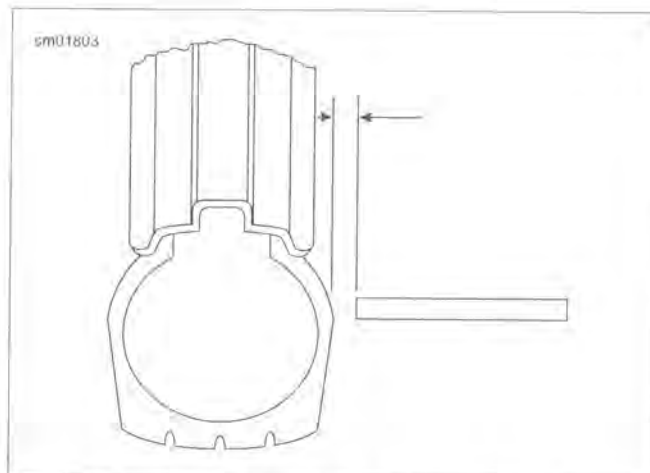

Figure 2-84. Checking Tire Lateral Runout
2. See Figure 2-84. Spin the wheel and measure lateral runout from a fixed point to a smooth area on the tire sidewall.